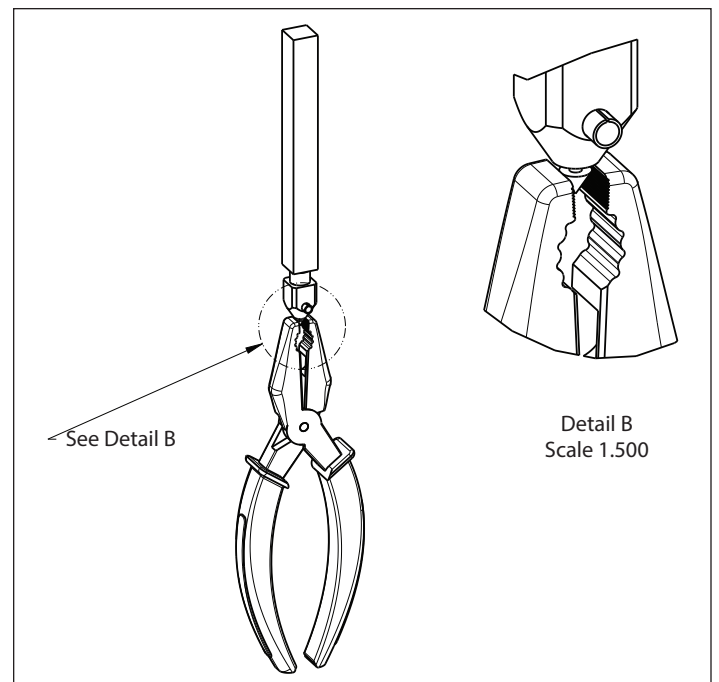

Figure 8. Removing the Point with Pliers.
- A. Grip the removable point with a pair of pliers (see Figure 8).